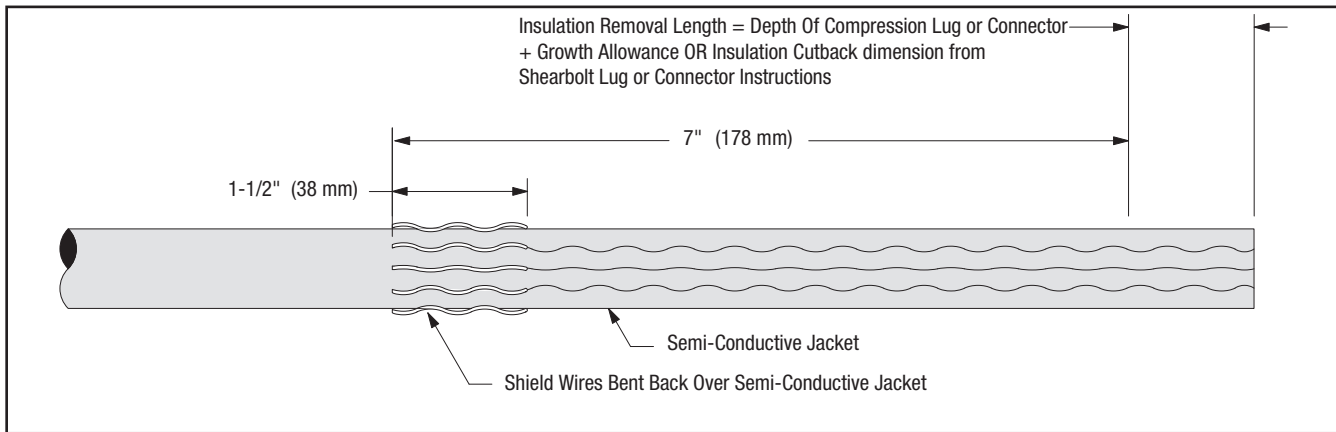

Figure 17
12.6 Remove constant force spring. Bend shield wires back upon semi-conductive jacket 1-1/2" (38 mm). Cut excess shield wire and discard (Figure 17).